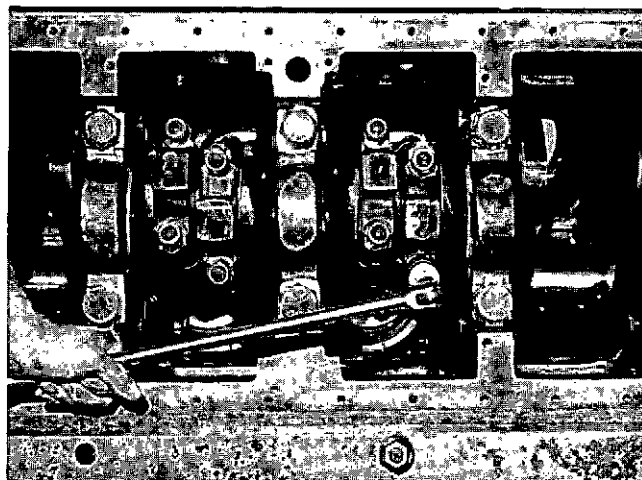

Fig. 0-41, V40074. Removing rod nuts
1. Remove connection rod nut bolts, Fig. 0-41, washer, and lockplates (if used), loosen rod caps. Discard lockplates if used and install the new washer during assembly.